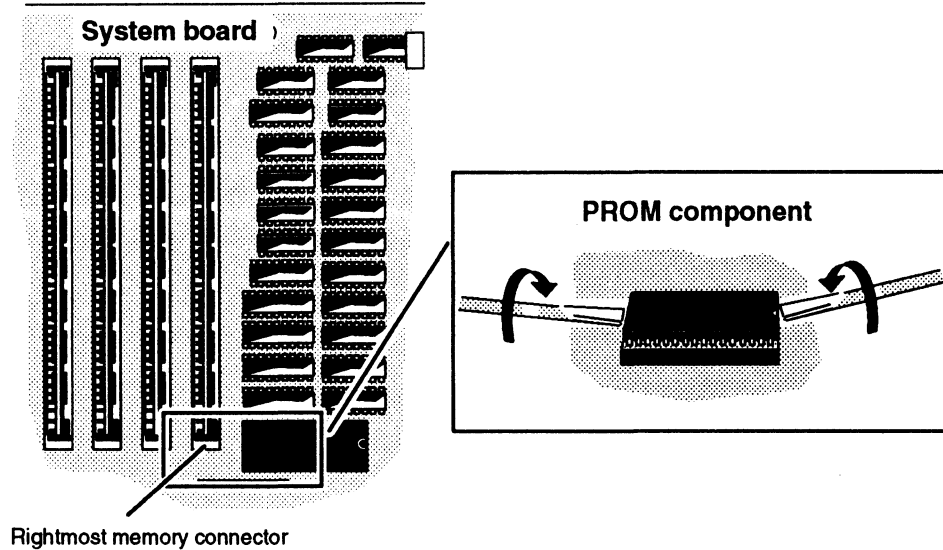

Figure 9-7 Removing the PROM Component
10. Using a flat-blade screwdriver, *gently* pry up one end and then the other end of the PROM component as shown in Figure 9-7 until it is loose enough to remove by hand.
**NOTE:** If the *replacement* system board has a PROM installed as shown in Figure 9-7, you need to remove the PROM component from the replacement system board following steps 10 and 11 in the previous section “Removing the System Board.”